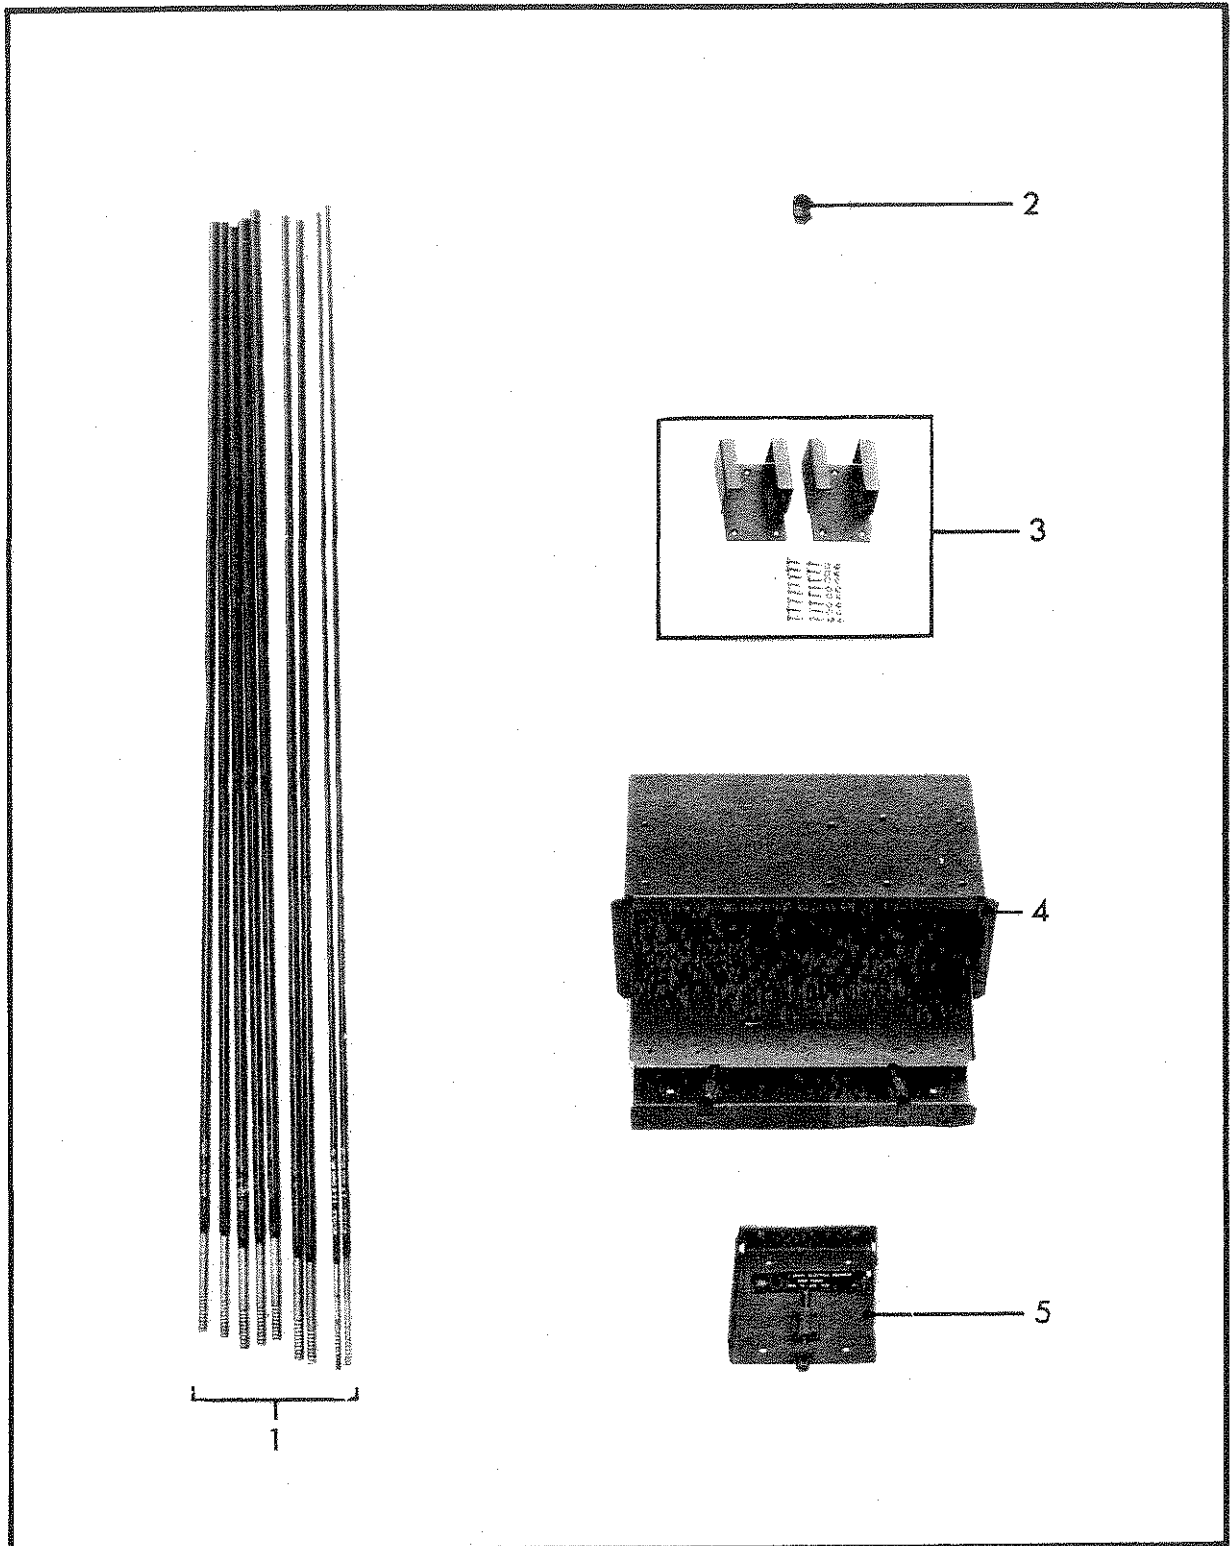

FIG 22
45. Antenna Elements, MS-116A, 117A and Antenna Section, MS-118A (Fig 22, Item 1). These components are hollow, threaded metal tubes which are screwed together to make up a 4.5 m vertical whip antenna. They are assembled from the base upward in the sequence MS-116A, 117A, and 118A. The bottom end of the lower MS-116A section is mounted in the Mast Base, AB243/C.
46. Antenna, Sheath Clamp, Brass. (Fig 22, Item 2). This brass clamp fits over the cover antenna. It fixes the cover firmly in position and prevents it from splitting caused by excessive antenna lash.
47. Audio, Accessory Mounting Kit, MK-F6. (Fig 22, Item 3). This kit includes two cradles to hold the Handset, H-F2 and Microphone, Dynamic, M-F1, and the necessary hardware to secure the cradles in position.
48. Base, Shock Mount, Electrical Equipment, MT-F2. (Fig 22, Item 4). This is a rectangular sheet metal case with an open front, into which the receiver transmitter is mounted and secured by two screw clamps. The case is attached by shock mounts to a base plate for mounting on a horizontal surface.
49. Base, Shock Mount, Electrical Equipment, MT-F3. (Fig 22, Item 5). This is a rectangular sheet metal base with flanges turned up at the sides and rear. It is screwed to the top of the Base MT-F2 (para 105). The Power Supply, PP-F1 is located on the base by two spigots at the rear and secured by a screw at the front.